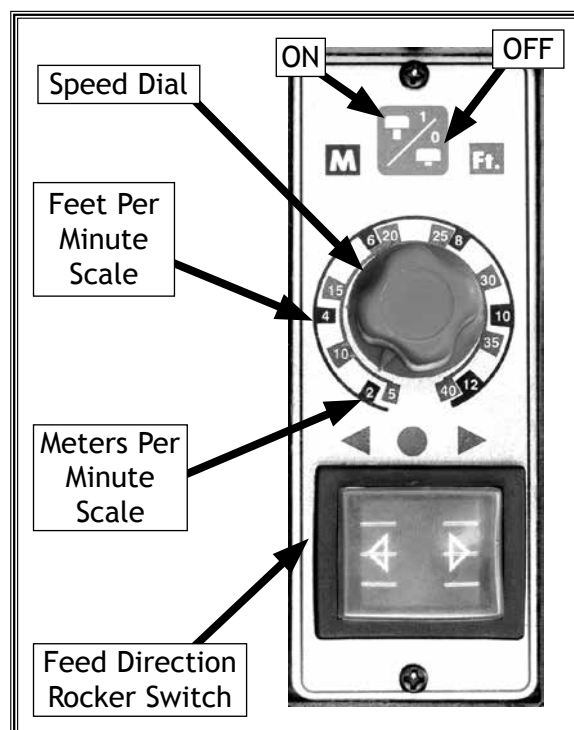

Figure 39. Feeder motor controls.
3. Make sure the speed dial (**Figure 39**) is pushed IN and turned all the way to the left.
4. Make sure the feed direction rocker switch (**Figure 39**) is in the central position.